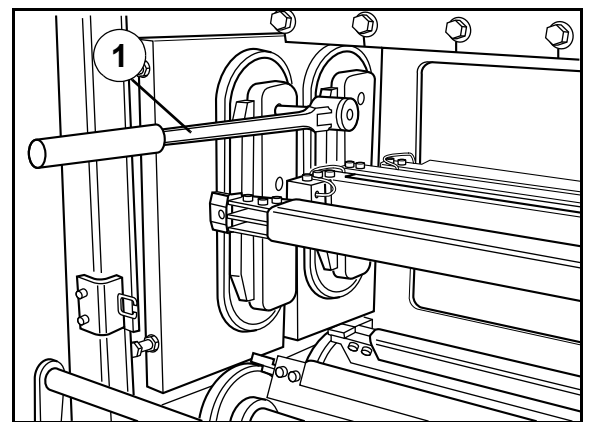

Fig. 30
- 1 Loosen the upper sprocket of the sealing bars. Pry off the sprocket with a pinch bar (tight fit) until the sprocket and chain is movable in the direction of web motion. See Fig. 30.